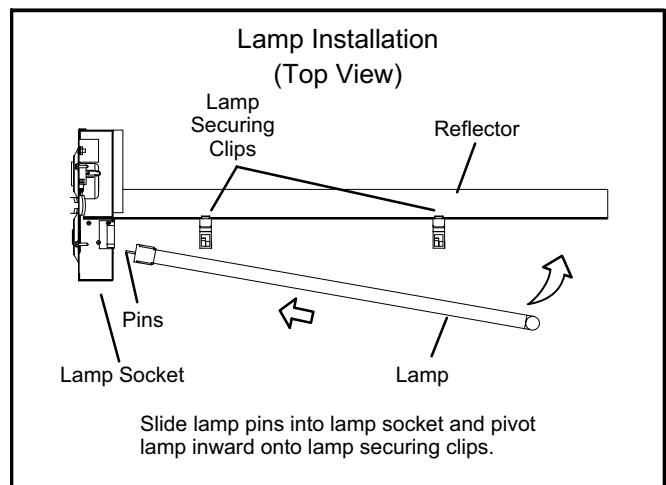

Figure 5
- 9 - Remove one replacement lamp from the box. Position the lamp with the pin end closest to the lamp socket. While engaging the pins in the socket, pivot the lamp so that the securing clips on the reflector lock into the open space in the middle of the lamp. See figure 5.